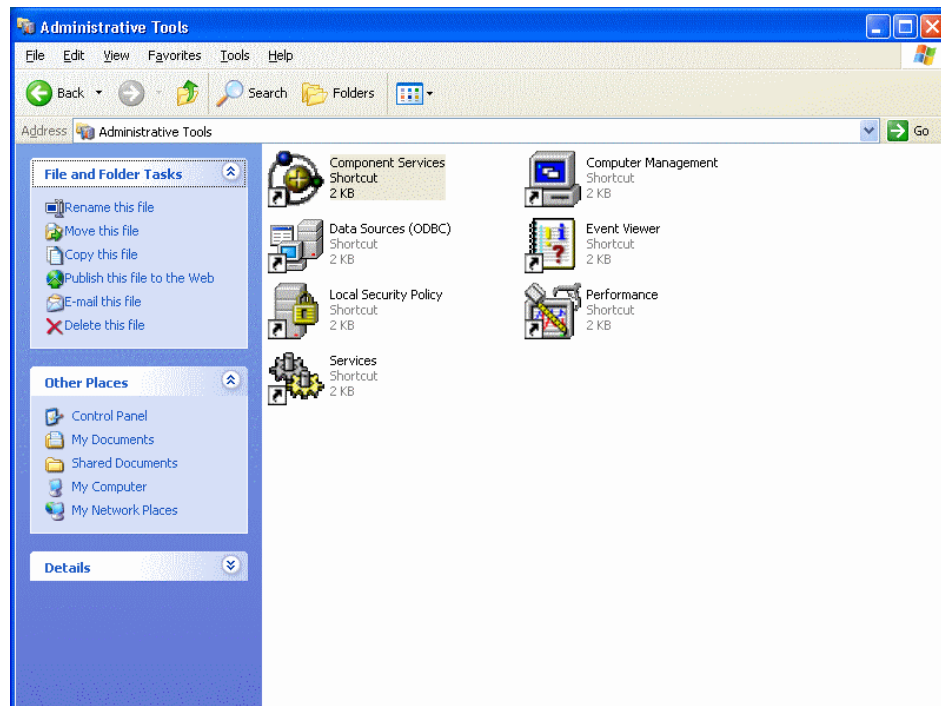

Fig. 6.3-17 Administrative Tools Window
9. Double click on **Component Services** in **Administrative Tools** window. (Shown in Fig. 6.3-17.)